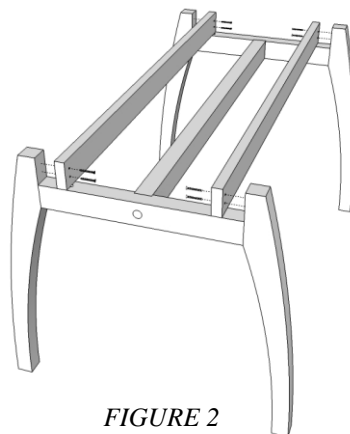

FIGURE 2
- 2) LOOSELY ATTACH THE 2 SLIDE STRETCHERS TO EACH LEG ASSEMBLY LEVEL WITH THE TOP OF THE LEGS USING 8 - 1 3/4" SCREWS. (FIGURE 2) THIS COMPLETES THE BASE ASSEMBLY.**